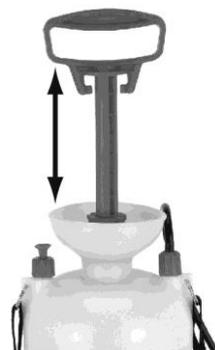

Fig. 3
2. Pull the handle up and pump until you feel a resistance (Fig. 3).